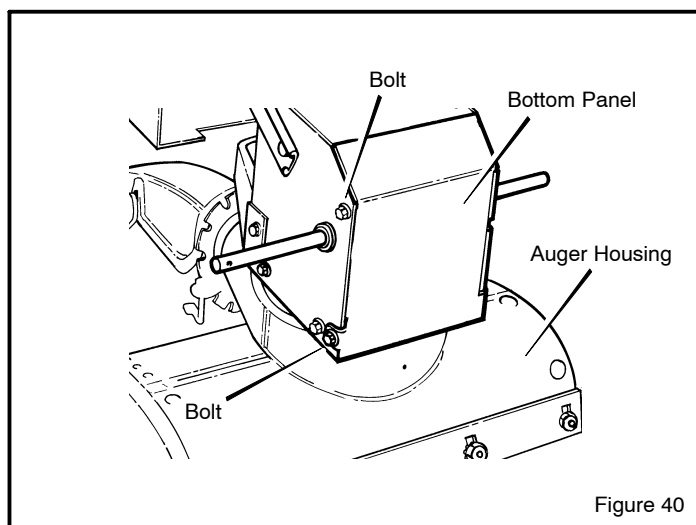

Figure 40
2. Loosen the **bolts** on each side of the **bottom panel** (see Figure 40).
12. Install the **bottom panel** (see Figure 40).